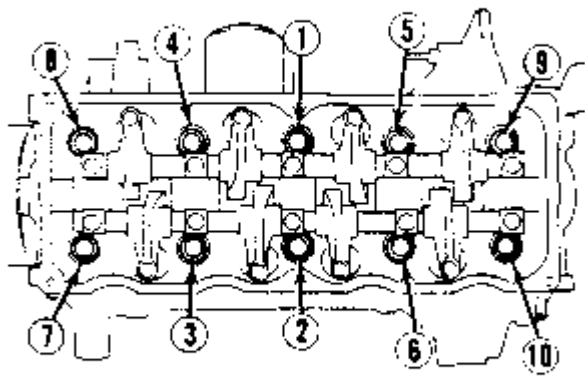

Fig. 1: Installing Cylinder Head Bolts (1.3L)
1. Place new head gasket properly on block. Carefully place cylinder head in position on block. Install head bolts. Tighten bolts in sequence and in 2 steps. See Fig. 1 .